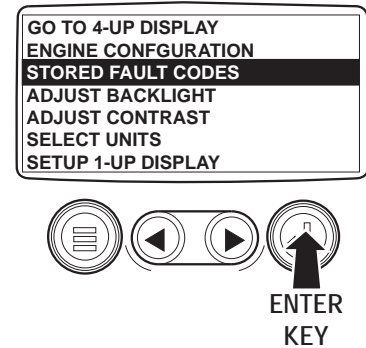

Figure 13 – Main Menu
2. Using the Right Arrow Key and toggle down the list until Stored Fault Codes is highlighted. See Figure 13.